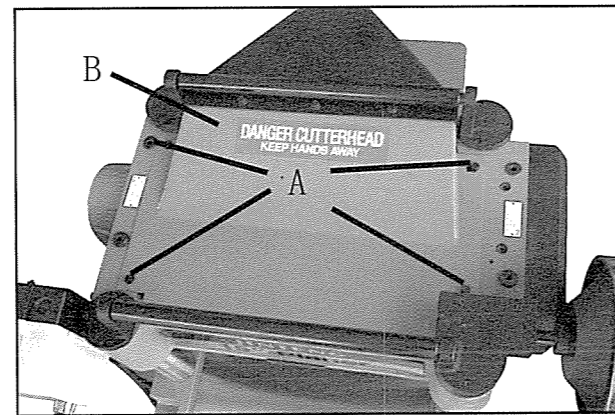

Fig. 17
2. Remove the four screws (A), and remove the upper cover (B) as shown in Fig.17.
2. Remove four screws (A), and the upper cover (B) as shown in Fig.17.